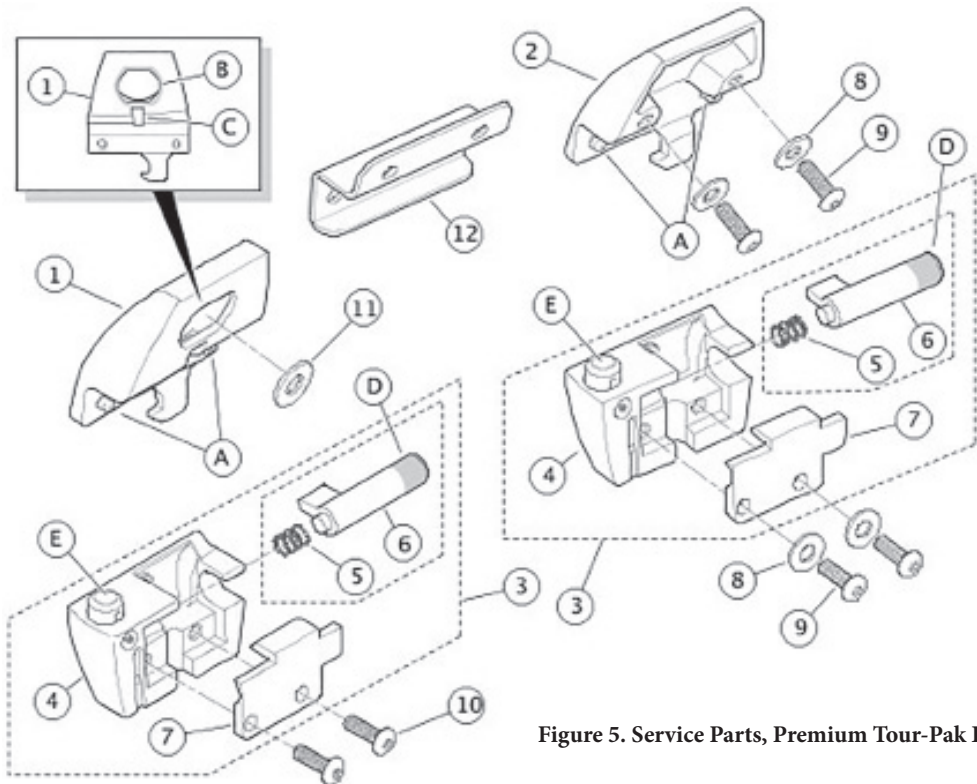

Figure 5. Service Parts, Premium Tour-Pak Latch Kit
See Figure 5 and Table 1.
1. See Figure 5. Get the upper forward Tour-Pak latch (1) and 6.4 mm ( $\frac{1}{4}$  in) flat washer (11) from the kit, and the lockset removed from the Tour-Pak lid earlier.
4. Install the lock guide (7), in the proper orientation. Install the jam nut (6) and tighten per service manual instructions.
5. For CVO models with power locks: Assemble the remaining components per the service manual. For ALL OTHER models: Follow the service manual to install the cam washer, cam hook (5), flat washer (13) and lockwasher (4) onto the lockset threaded stud in the proper orientation.
6. Apply a few drops of Loctite 243 - Blue to the clean lockset stud threads. Install the hex nut (3) and tighten per the service manual.
7. See Figure 5. Get the upper rear Tour-Pak latch (2), two #8-32 x 16 mm ( $\frac{5}{8}$  in) long pan head screws (9) and two #10 (5 mm) flat washers (8) from the kit.
9. Align the latch over the two holes in the lid, with the locating pins (A) in the holes on the lid flange.
- 1. Open the Tour-Pak lid. See Figure 5. Remove the fasteners to free the lower latch assembly (3) from the Tour-Pak.
- 2. Remove the latch cover (7), catch (6) and catch spring (5).
- 4. Install the catch spring and catch into the lower latch (4) chamber.
- 5. Install the latch cover, and press the catch release button (D) against the spring to verify proper operation.